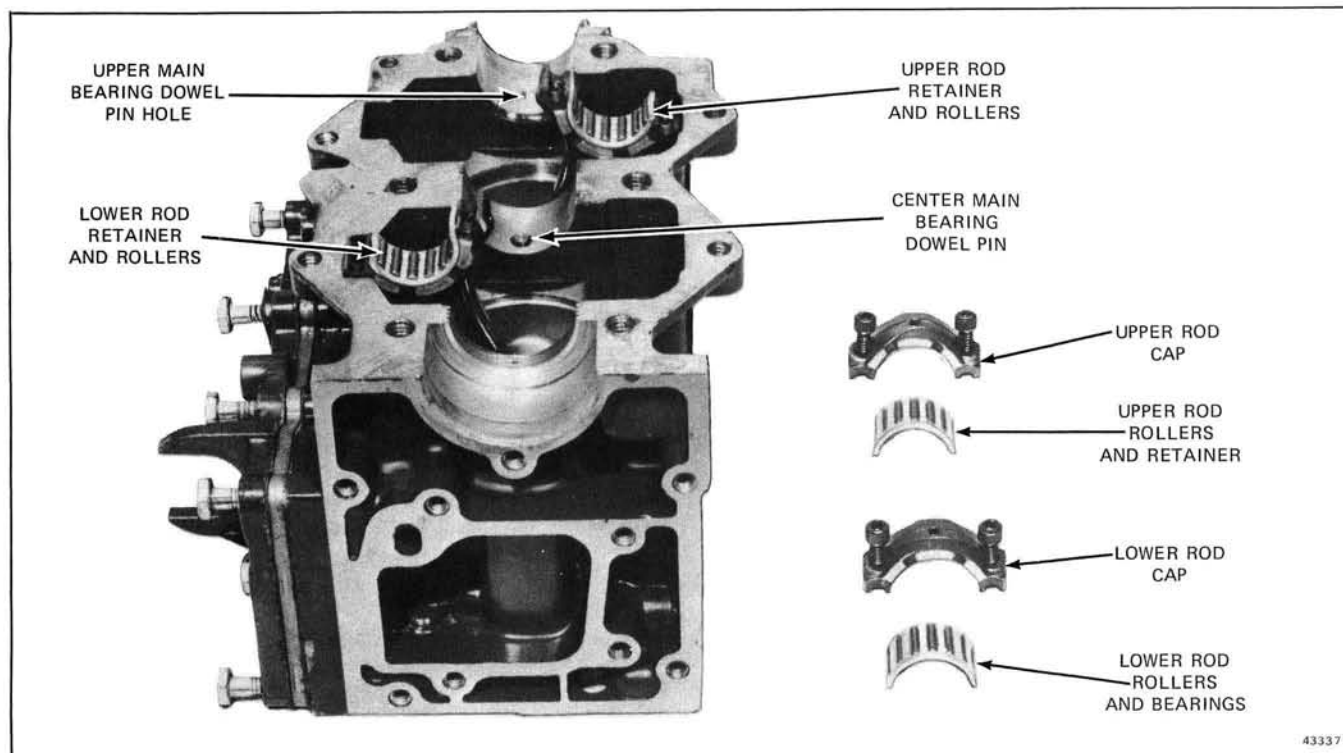

Figure 5-35. Installing Roller Bearings and Retainers
b. Remove rod caps from connecting rods. Place one retainer half and bearings on each rod. See Figure 5-35.
c. Place crankshaft in position on cylinder block, upper main bearing dowel pin with dowel pin hole in cylinder block and center main bearing dowel pin hole with dowel pin in cylinder block. See Figure 5-35.